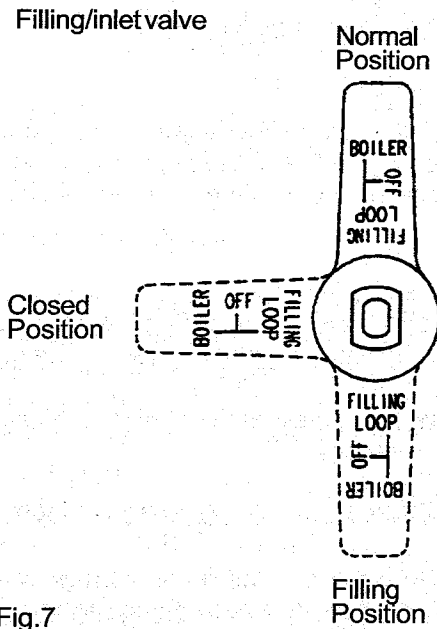

Fig.7
- (iii) Vertically down - Filling position. See fig. 7.To fill slowly turn the handle of the filling/inlet valve past the closed position towards the filling position. Mains water will be heard to enter the system/boiler. As the water enters the system/boiler the pressure gauge will be seen to rise. Pressurise to between 1bar & 1.5bar when the system is cold.